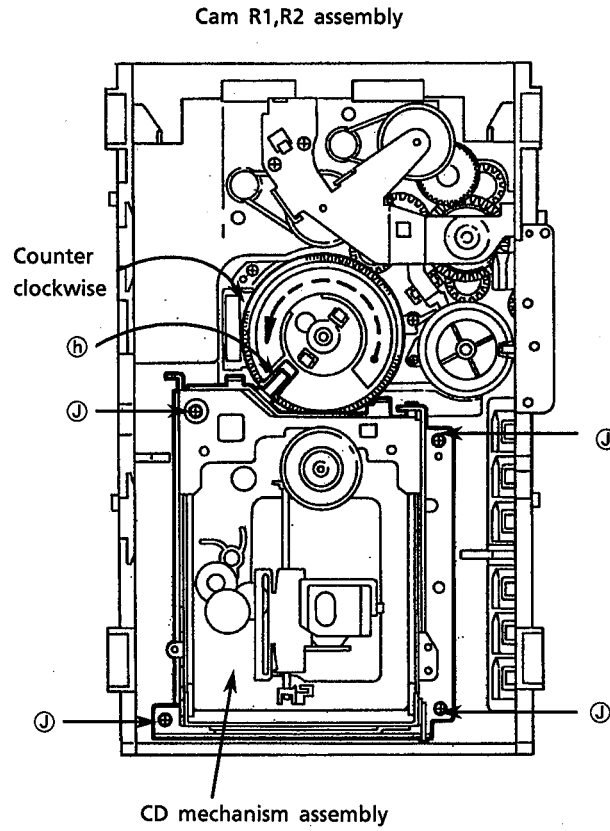

Fig. 36
2. Rotate the Cam R1, R2 ass'y counterclockwise so that CD mech. ass'y's shaft ⑥ is positioned as shown in Fig. 36.
3. Remove 4 screws ⑦ securing CD mech. ass'y. (See Fig. 36.)